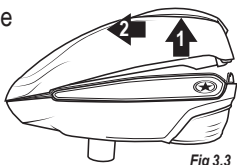

Fig 3.3
- Lift the Upper Shell away from the Lower Shell, angling it slightly forward until it is free (Fig 3.3).